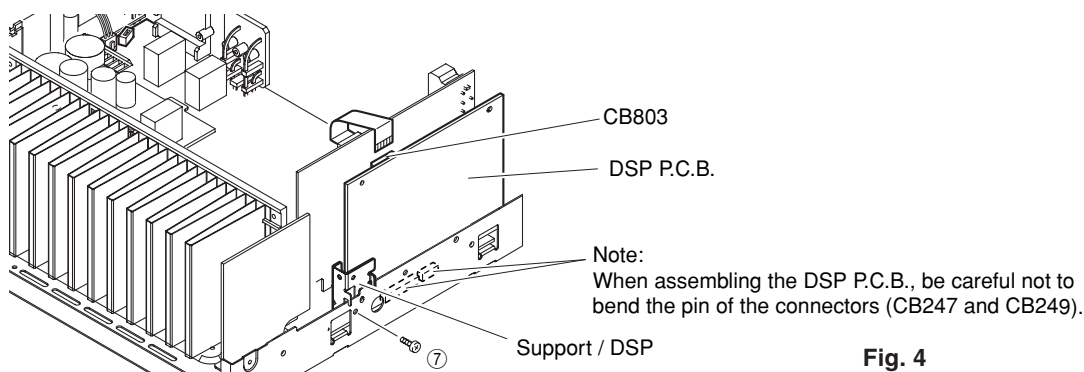

Fig. 4
- Remove 1 screw (⑦). (Fig. 4)
- Remove CB803. (Fig. 4)
- Remove the DSP P.C.B. with the Support/DSP. (Fig. 4)